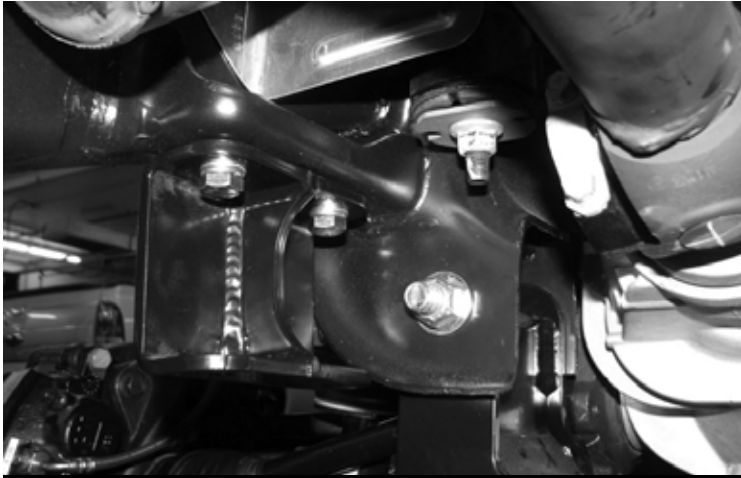

FIGURE 77 - STEP 49
49. Locate FT20658BK (sway bar drop brackets), and M10-1.5 x 30 bolts and washers. Install the new brackets with the flat side towards the outside of the vehicle. Torque to 58 ft-lbs. **SEE FIGURE 77**